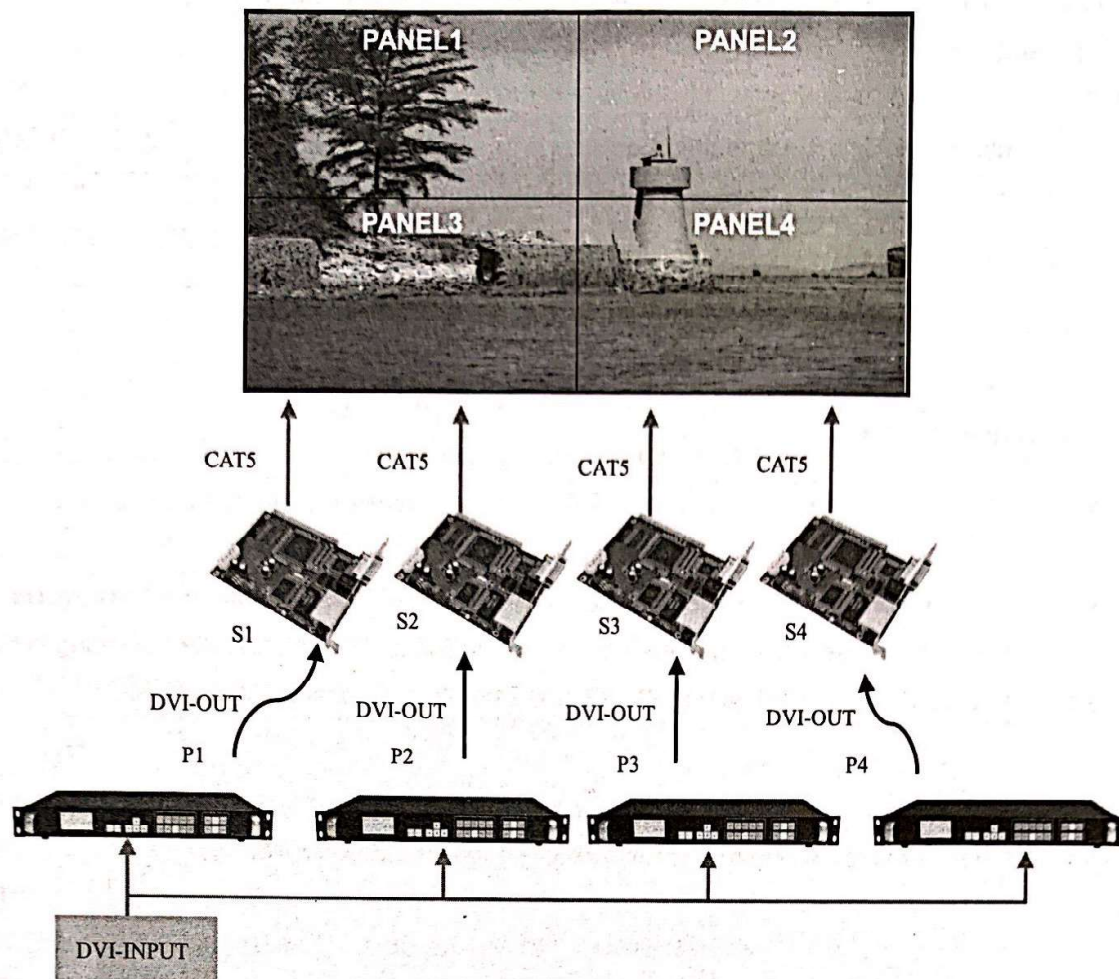

Figure 13-Equal Splicing
1. Refer to Figure 13 for all connected devices.